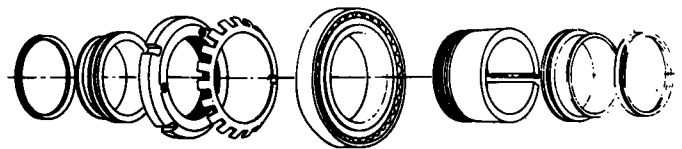

Figure 1a
4. Slide second V-ring seal onto the shaft again making sure lip is toward the housing. **NOTE: Do Not Install V-ring seal on seal at this time** (see Figure 1A).